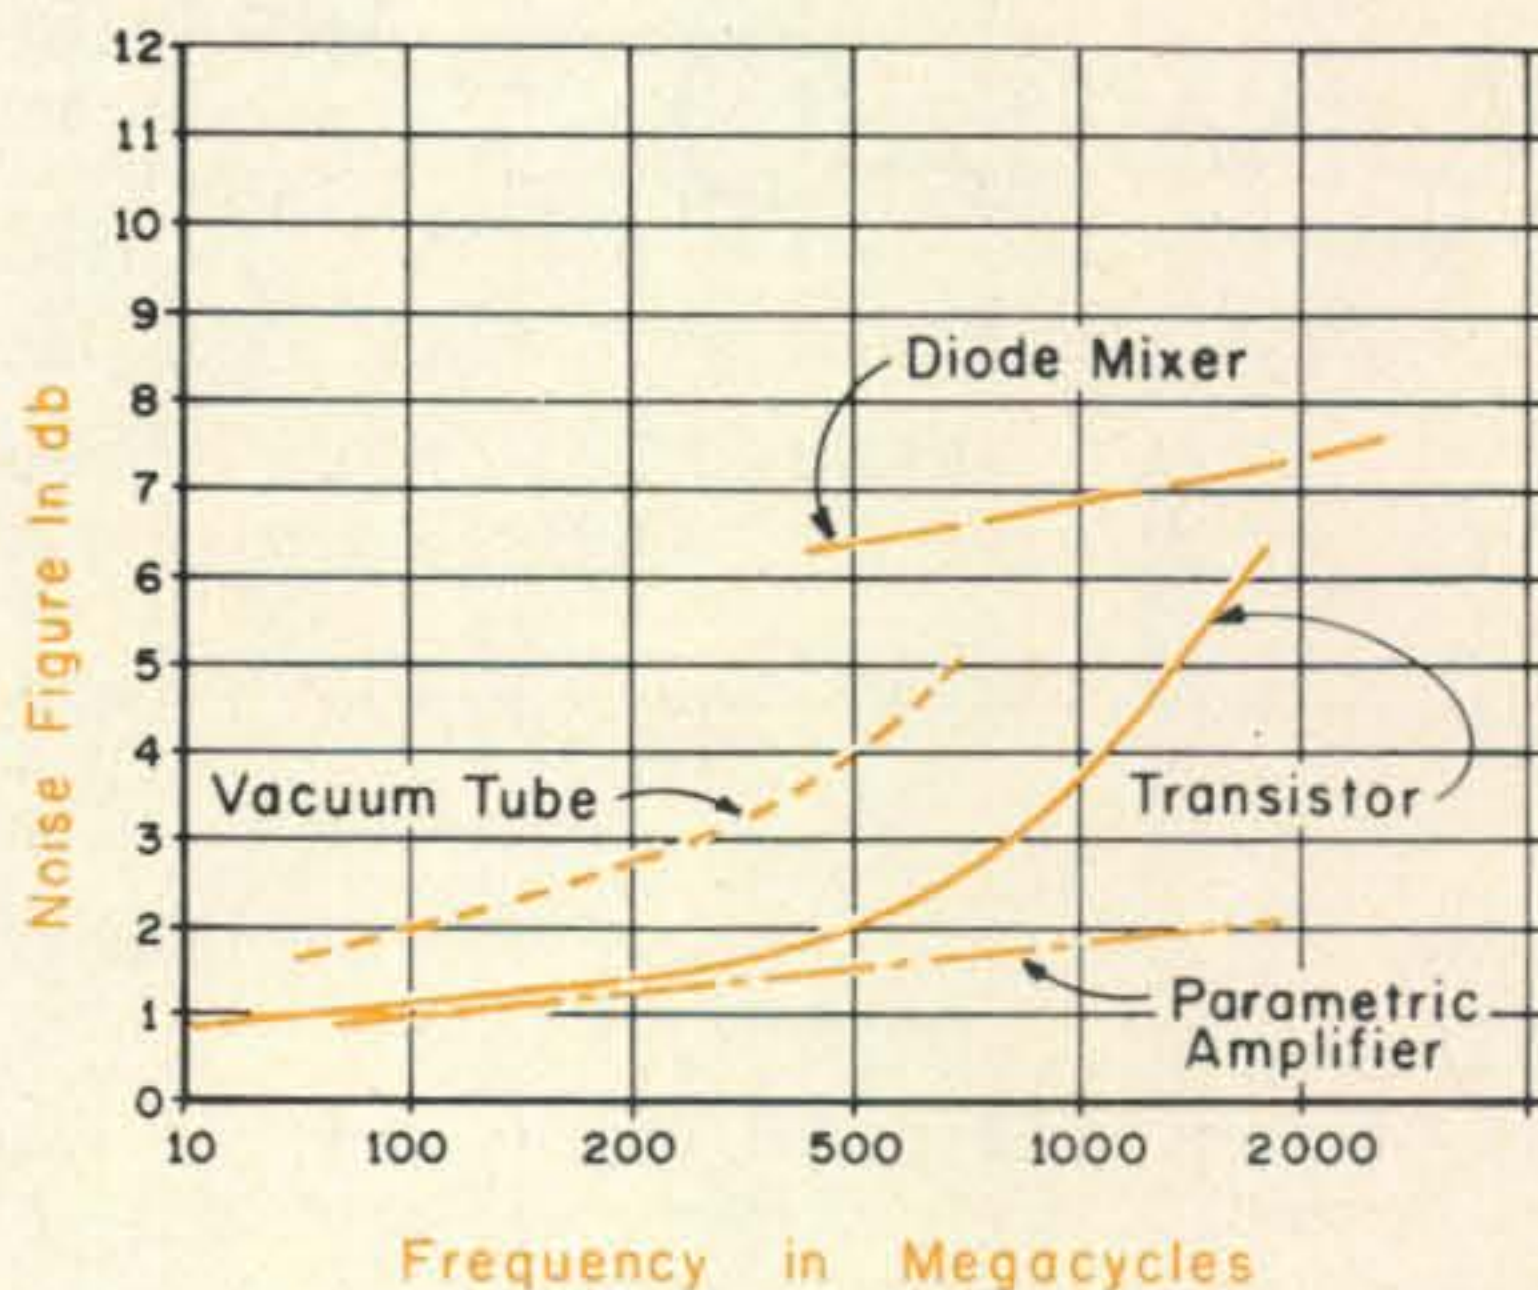

Fig. 1—The noise figure of various amplifiers available to amateurs.
The state of the art is transistor today as Figure 1 clearly shows. This graph plots noise figure (NF) of various preamplifying devices (available to amateurs) versus frequency. In this respect the data is conservative. For instance on 1296 mc, there are transistors with measured NF's better than 3 db. But just try to get your hands on them. Likewise there are parametric amplifiers which get down below 1 db NF; but without liquid nitrogen cooling a noise figure this low is quite unlikely.
A detailed description of how the voltage-variable diode capacitors function will not be given at this time, except to mention that solid-state diodes will function as a capacitor when they are reverse-biased into non-conduction. (Special silicon types are specifically designed for this application.) The capacitance depends on the magnitude of the reverse bias, so the diode can be made to perform as a *variable* capacitor controlled by a variable voltage. Typical circuitry is shown in fig. 1.
Fig. 1—Basic setup for tuning a circuit with a voltage-variable capacitor diode.  $C$  is a d.c. blocking capacitor,  $R$  isolates the signal energy from the bias source.  $R$  may have a value as high as several megohms.